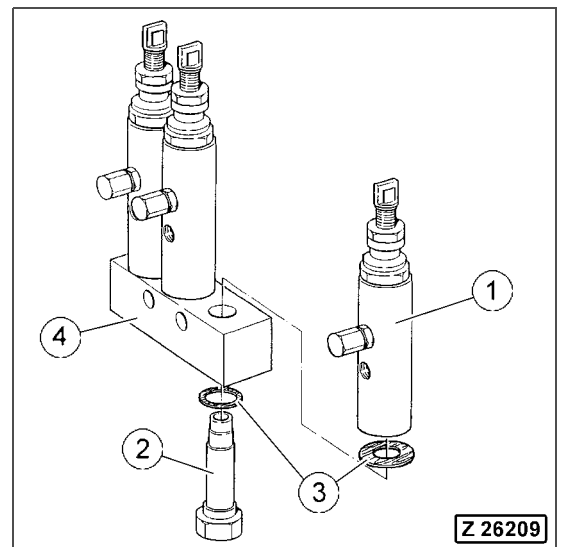

Fig. 5-163
8. Remove the adapter bolt (Fig. 5-163, Pos. 2) and remove the valve housing (Fig. 5-163, Pos. 1) from the metering valve assembly (Fig. 5-163, Pos. 4).